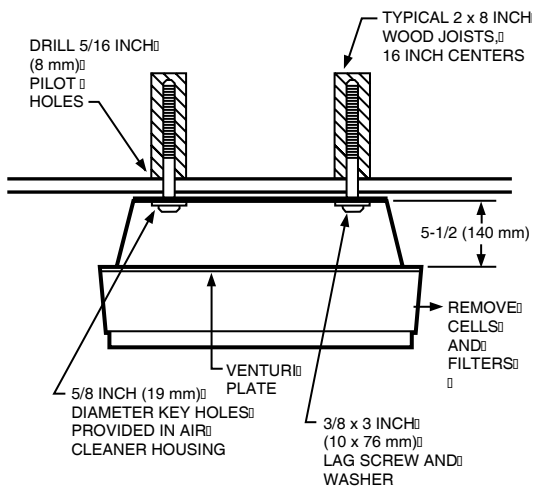

Fig. 8. Mounting the F90 using lag screws in joist applications.
- Mounted into a ceiling joist using lag screws. See Fig. 8.
1. Locate the ceiling joists. See Fig. 8.